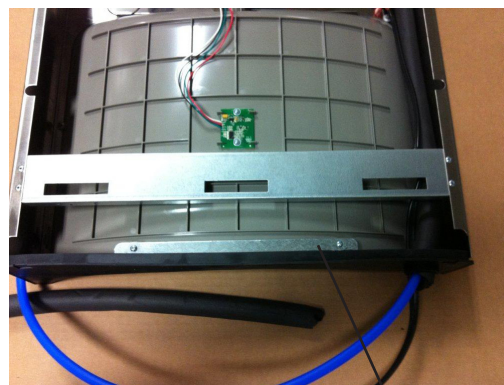

Fig. 7
- 6) **Install gasket** on bottom of bottle filler tower with gasket support bracket & (2) screws (See Fig 7).